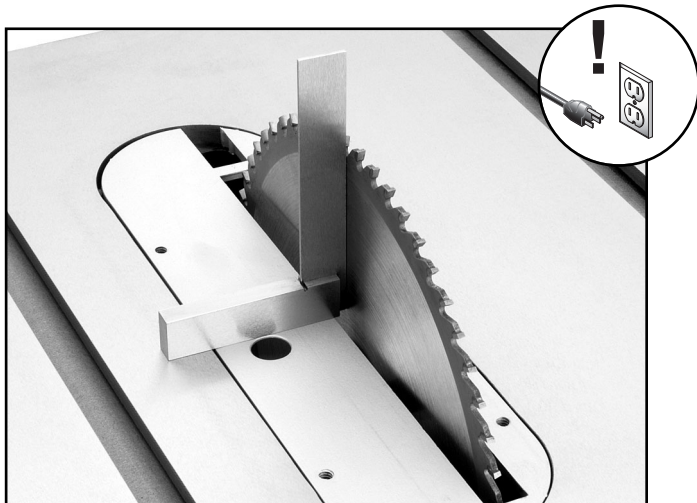

Figure 58. Checking blade angle to table.
4. Place a machinist's square against the blade and table surface, as shown in **Figure 58**.